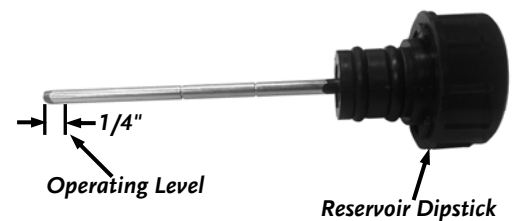

Figure 59
3. Remove the Dipstick and check the fluid level. The fluid is at the proper level when it is about 1/4" above the bottom of the dipstick (**Figure 59**).